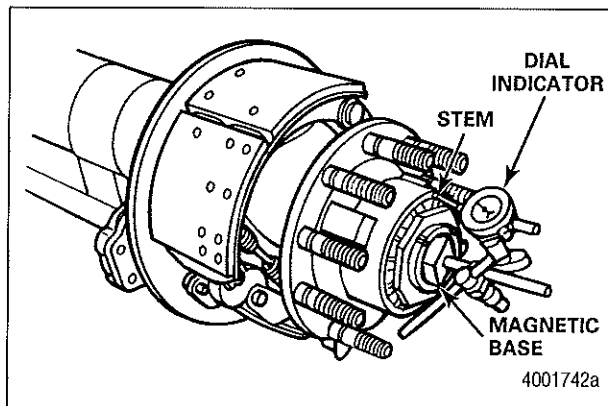

Figure 28
- Attach the magnetic base of a dial indicator to the spindle. Touch the dial indicator stem to the hubcap gasket face. Figure 28.